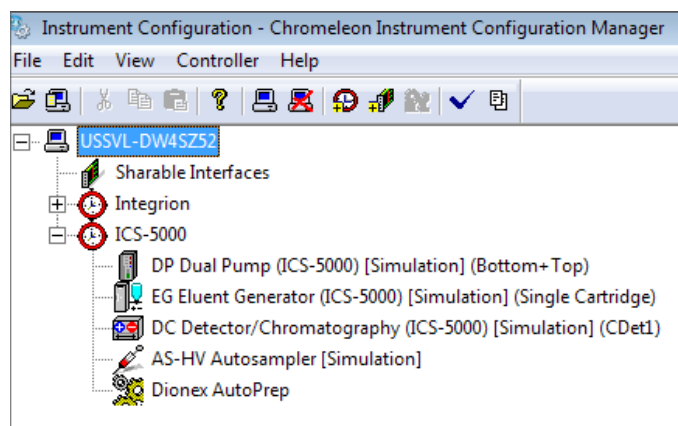

Figure 2. Creating a configuration.
6. Add the modules (ICS-5000 DP, EG, DC, and AS-HV autosampler and Dionex AutoPrep) to this instrument configuration (Figure 2).